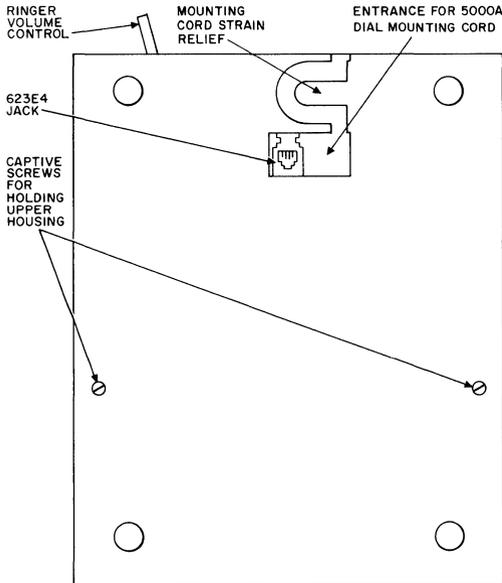

Fig. 3—Bottom of 5000AM Transaction I Telephone Base
- (1) Disconnect power plug from AC outlet, if connected.
- (2) Invert set and loosen the two captive screws holding the upper housing and chassis (Fig. 3).